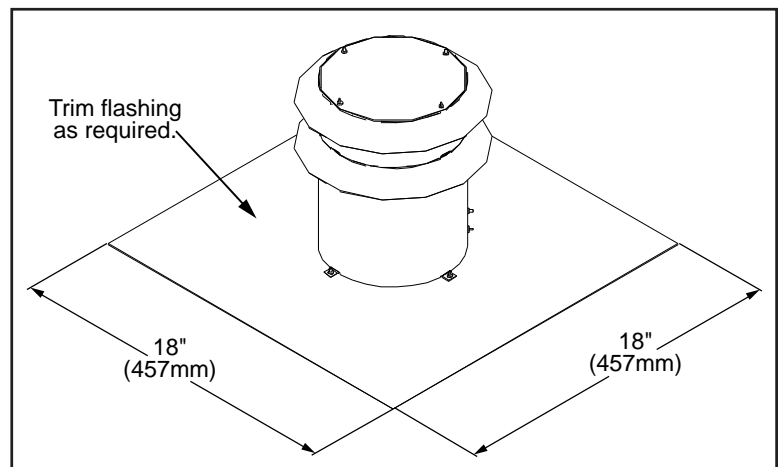

Figure 26: Generic Vent Cap Dimensions.
4. Most vent caps can be installed onto chimneys with flue openings up to 16" (406mm) x 16" (406mm) and the actual flashing is 18"x18" (refer to Figure 26). If the chimney is smaller the cap should be trimmed down and folded over.
5. Apply a bead of stove cement sealant to the top section of the Ø3" (76mm) exhaust vent collar plate. Slide the Ø3" (76mm) flex vent over the flue collar and secure with three (3) sheet metal screws evenly spaced.
6. Place a bead of high temperature silicone on the intake collar of the fireplace, slide the Ø3" (76mm) flex intake liner over the collar, secure the flex liner with three (3) sheet metal screws evenly spaced.